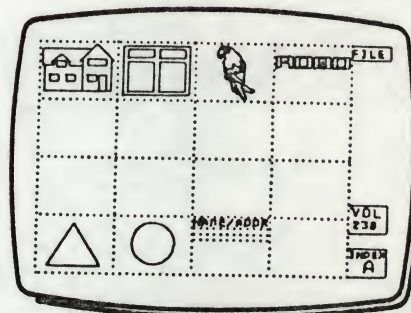

Fig 4
- 6 Select FILE from the menu, then place your name and address in an empty library box, as in Fig 4.